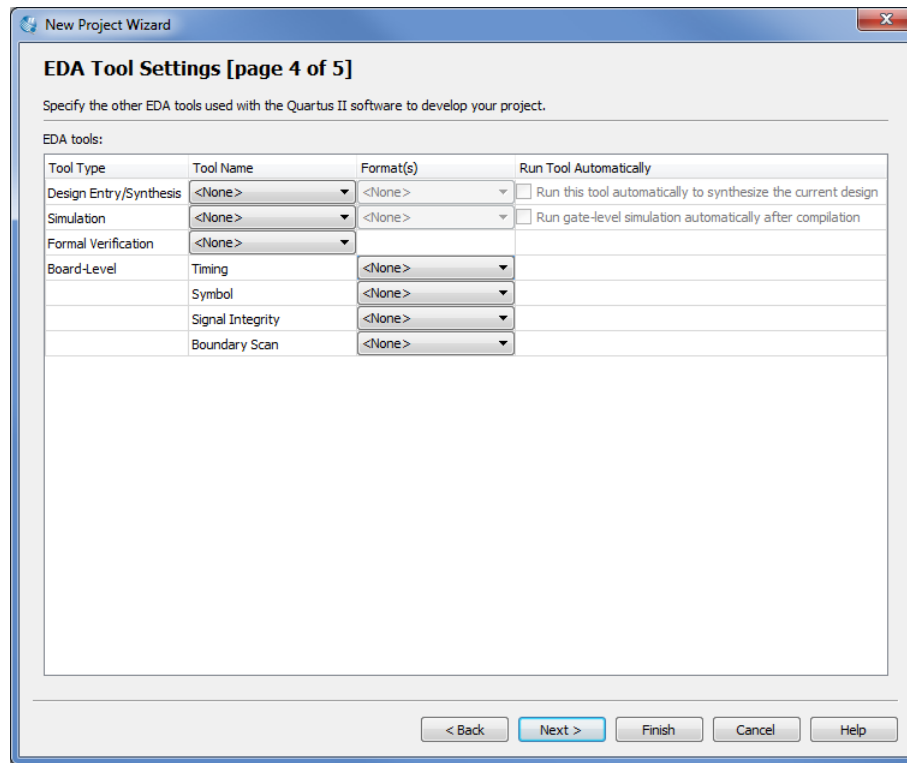

Figure 8. Other EDA tools can be specified.
- We have to specify the type of device in which the designed circuit will be implemented. Choose the Cyclone-series device family for your DE-series board. We can let Quartus II software select a specific device in the family, or we can choose the device explicitly. We will take the latter approach. From the list of available devices, choose the appropriate device name for your DE-series board. A list of devices names on DE-series boards can be found in Table 1. Press Next, which opens the window in Figure 8.